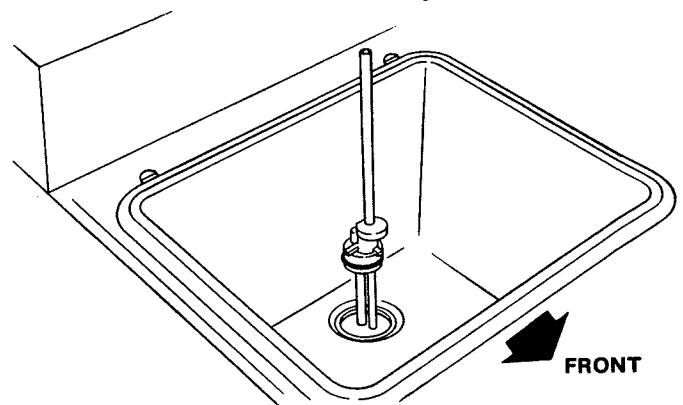

Figure 28. Installing Mix Inlet Regulator
- K. Install the mix inlet regulator into the hopper with the air inlet (long) tube toward the front of the freezer (Fig. 28).